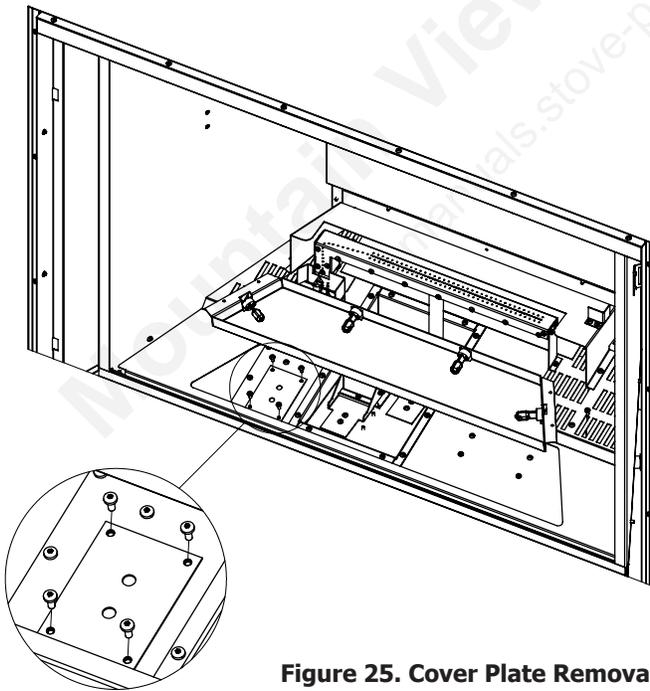

Figure 25. Cover Plate Removal
5. Lift up light tray to reveal cover plate, remove the four (4) T-20 screws and feed the wires out along with the light tray (see Figure 25). Disconnect the wire connectors to fully remove. **Do not ever remove merettes.**